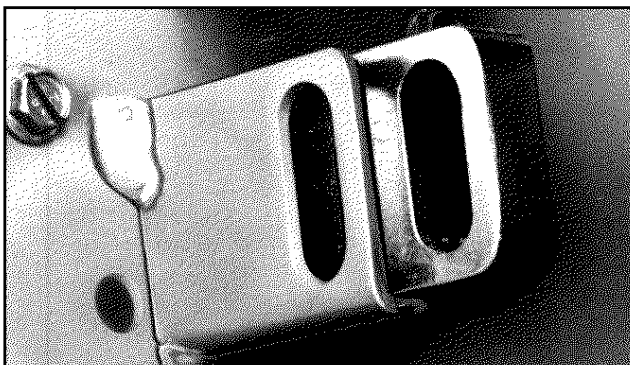

FIGURE 10B
1. Trip the switch to the open position by following the operation instructions outlined on pages 5 and 6. For 800-2000 Ampere switches, slide padlock through holes and secure. For 2500-4000 Ampere switches, push in padlock bar and secure. (See Figure 10B).